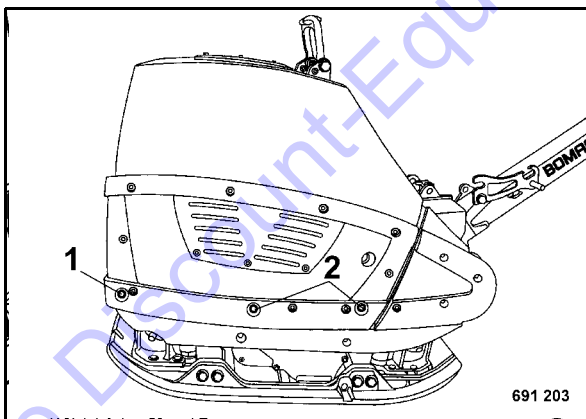

Fig. 44
- Loosen the hood fasteners (1) on both sides and remove the fasteners (2) from both sides (Fig. 44).